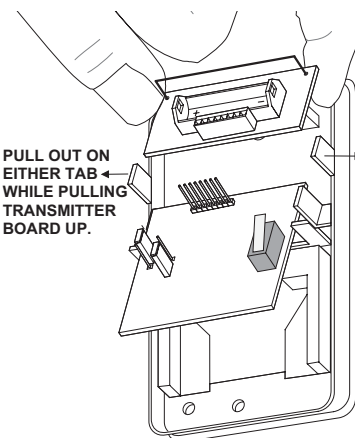

Figure 11. Removing the Transmitter Circuit Board
3. Remove the transmitter circuit board and place it inside the cover (see Figure 11)